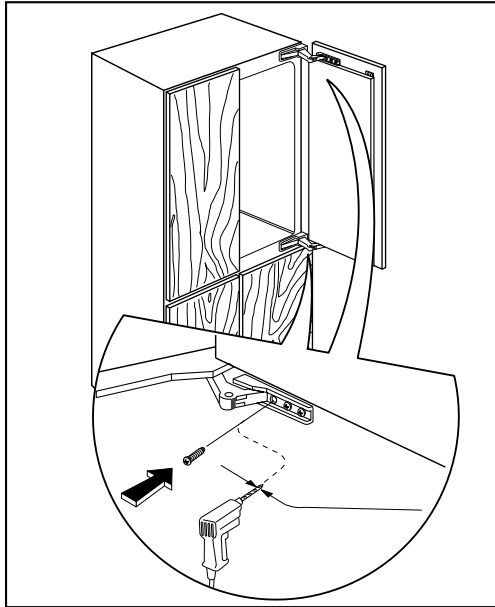

Fig. 14
- Once adjustment has been completed, open the doors and drill the door panels with a 2.5 mm bit through the hole in the hinge; fix with the screws (Fig. 14).